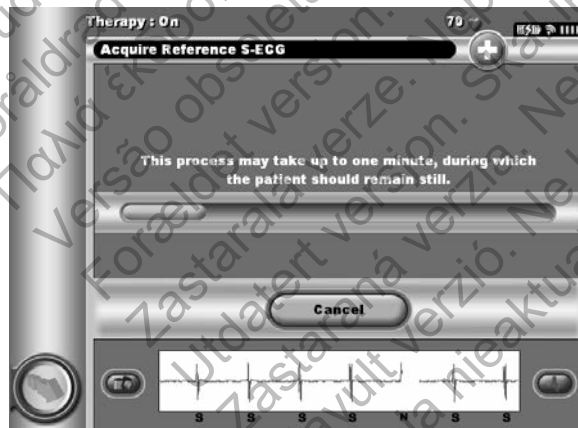

Figure 46: The patient should remain still while the Reference S-ECG is acquired
2. Select Continue to acquire a Reference S-ECG. The programmer will begin acquiring the Reference S-ECG. A message will appear requesting that the patient remain still (Figure 46). The reference S-ECG QRS template is recorded and stored in the SQ-RX device. Select the Continue button to complete the process and return to the Utilities screen. The Cancel button can be used at any time to end S-ECG acquisition and return to the Utilities screen.